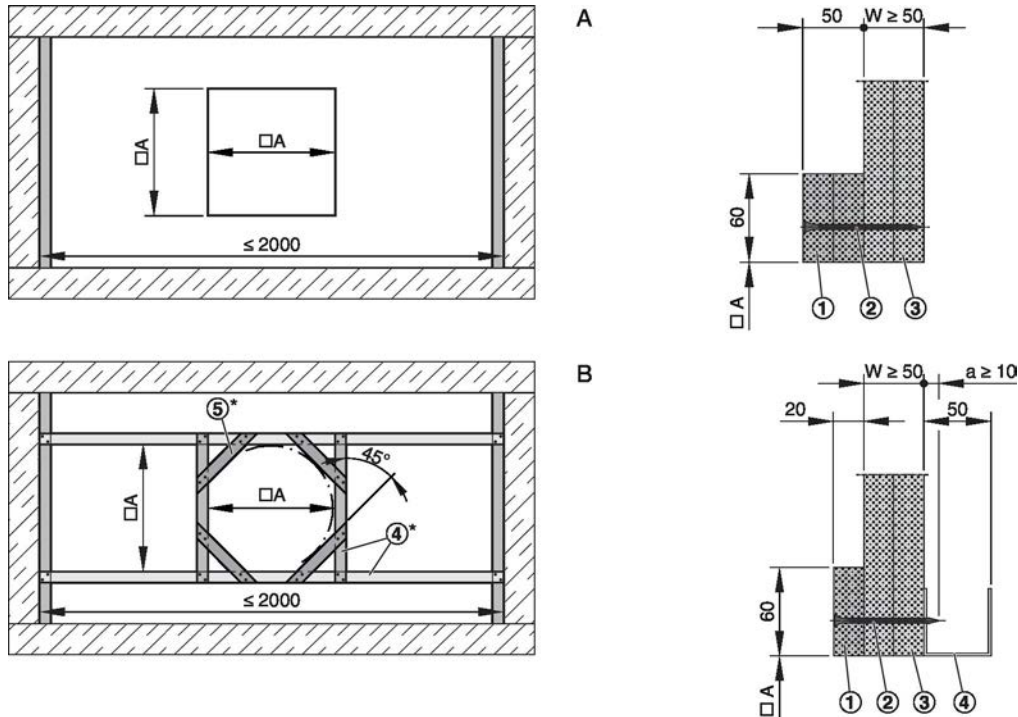

Fig. 42: Shaft wall without metal support structure and cladding on one side
- Erect the shaft wall according to the manufacturer's instructions and create an installation opening with reinforcing strips, see Fig. 42